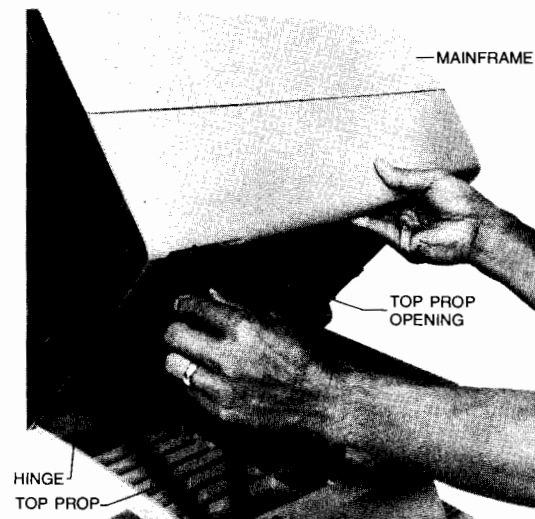

Figure 2-3. Freeing Mainframe from the Top Prop
7. Free the mainframe from the top prop by squeezing the upper end of the top prop (figure 2-3) while exerting an upward force on the left side of the mainframe.
8. With the mainframe free of the top prop, slide the mainframe forward an additional  $\frac{1}{4}$ -inch past the detents until the right side clears the fixed hinges (figure 2-3) on the right side of the support; then lift the mainframe free of the support.
2. While guiding the top prop so it enters the top prop opening (figure 2-3) in the lower left edge of the mainframe, lower the left side of the mainframe until the top prop locks the mainframe in the half-open (service) position.